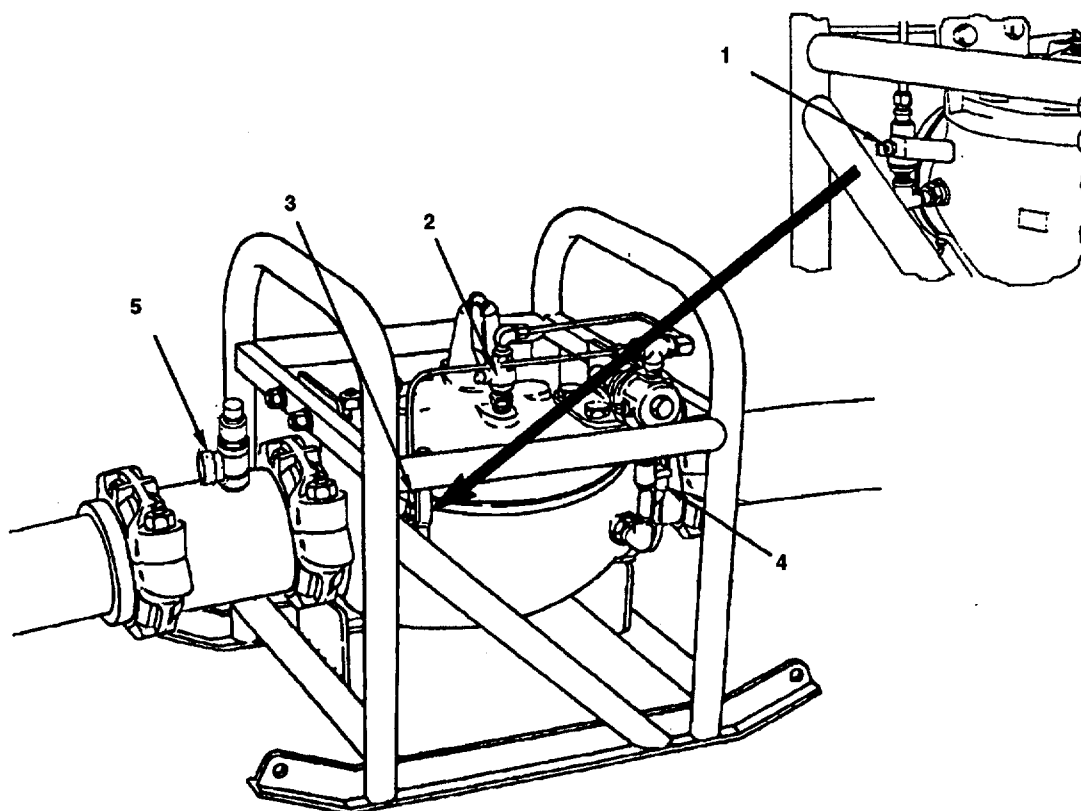

Figure 2-2. Operator's Controls and Indicators for TWDS 10-Mile Hoseline Segment.
2.1.2 **TWDS 10-Mile Hoseline Segment.** See figure 2-2 and table 2-2.